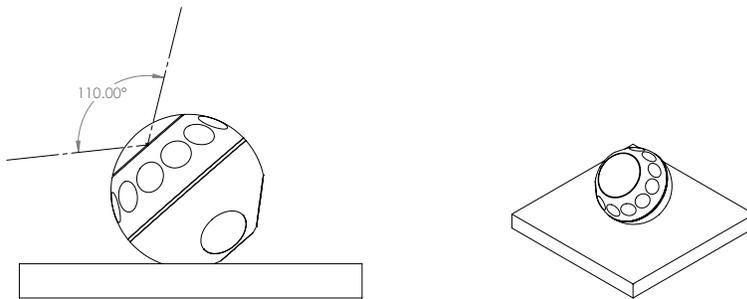

Figure 3 - Using the Motion Detector on a tabletop
3. Follow Figure 3 and place the Sensor Body on a flat horizontal surface with an unobstructed view of the area you wish to monitor.